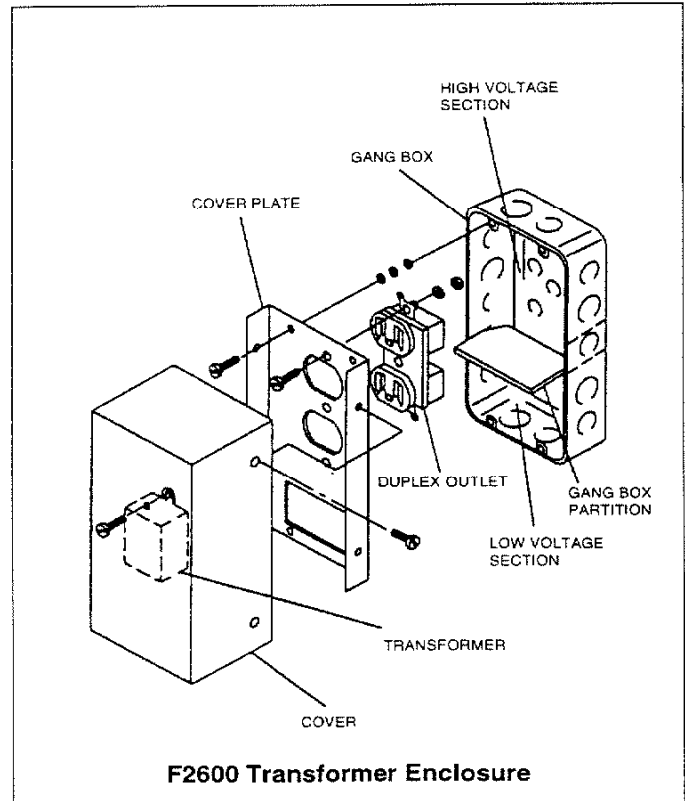

Figure 2
2. Install the utility box and duplex outlet with cover in the transformer enclosure as shown in Figure 2.
4. Plug the transformer into the duplex outlet and secure the transformer. Refer to Figure 2.